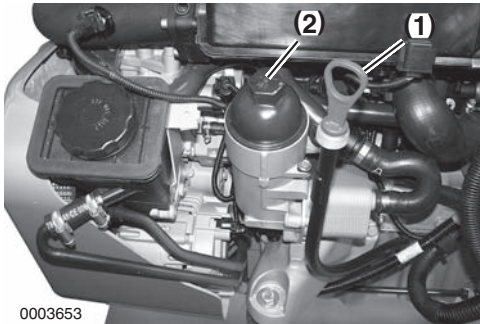

Figure 1
3. Loosen the engine oil filter cap (**Figure 1, (2)**) 1 - 2 turns with a socket wrench. Allow to sit a few minutes to allow oil to drain into crankcase.
4. Remove the engine oil dipstick (**Figure 1, (1)**). Attach an oil drain pump and pump out the oil. Dispose of waste properly.